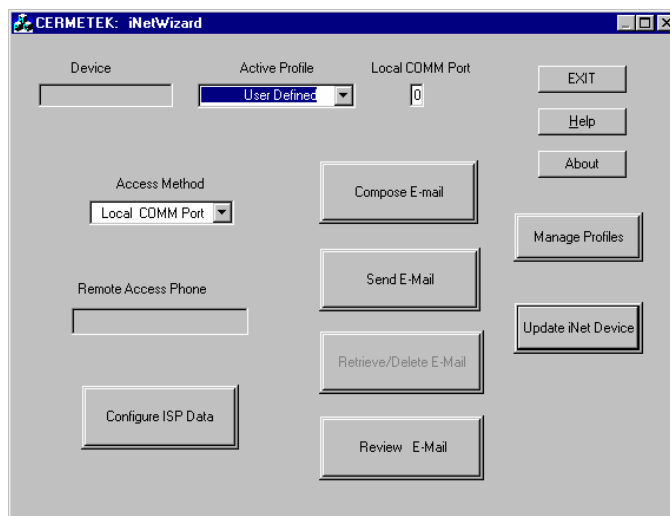

Figure 12. iNetWizard® Opening Window.
Step 4. The **iNetWizard®** window will open displaying various buttons and pull down menus. Although computer monitors vary in size and overall resolution, the Opening Window should look similar to the image in Figure 12.
Referring to the **iNetWizard®** window image contained in Figure 12, note that the DEVICE dialog box of the window is blank. The iNet product information will only be displayed when **iNetWizard®** has established communication with - and has successfully queried - the iNet product. For **iNetWizard®** to accomplish both of these tasks, the user must specify the method of communication access desired and **iNetWizard®** must successfully create the connection.